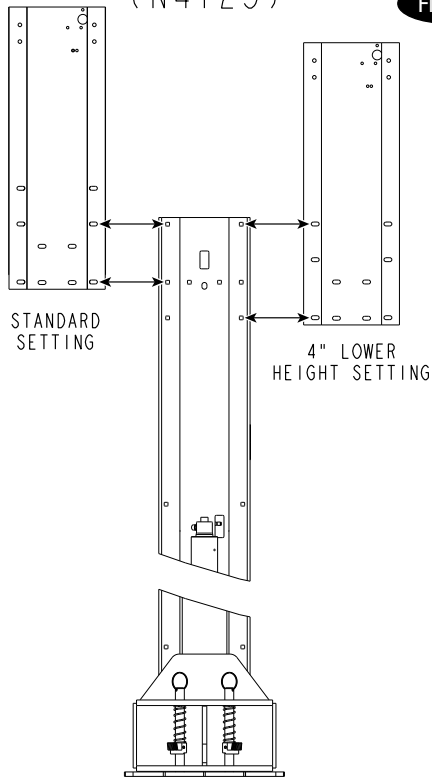

Fig. 2a
3. Column Extensions: Before standing columns upright, install the column extensions using (12) 3/8"-16NC x 3/4" Carriage HHCS and Flanged Locknuts, Fig. 3, Fig. 2a, 2c, and 2d.